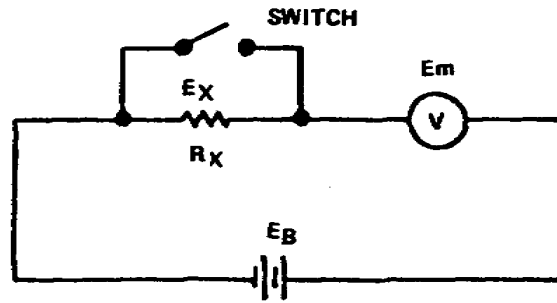

Figure 1-12. Determining value of unknown resistance of voltmeter
b. If the resistance is high, the voltmeter method can be used. With the voltmeter method, a voltmeter with known resistance is connected in series with the unknown resistance (fig 1-12).
(2) In the circuit shown in Figure 1-12 you can find the current in the shunt ( $I_s$ ) and the total current ( $I_t$ ) in the circuit. For example, if the shunt resistance ( $R_s$ ) is equal to 1/5th the value of the resistance of the coil ( $R_c$ ), and current through the coil ( $I_c$ ) is 0.5 milliamperes, there is 5 times as much current through the shunt ( $I_s$ ) as through the coil ( $I_c$ ), because the current divides in inverse proportion to the resistance; therefore, the current through the shunt is  $2.5(5 \times 0.5)$  milliamperes. The total current in the circuit is 3 ( $0.5 + 2.5$ ) milliamperes. The total current in the circuit is 3 ( $0.5 + 2.5$ ) milliamperes.